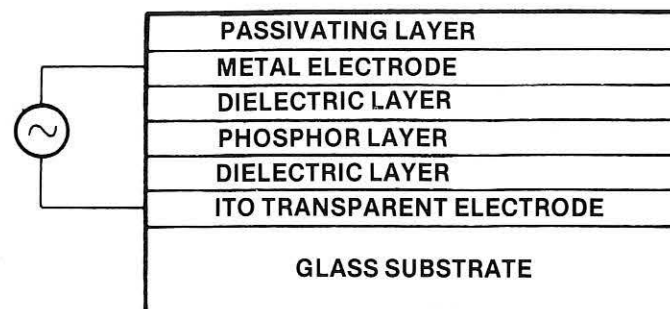

Figure 8. Typical structure of ac EL thin film device.
**3.1 Fabrication Technique:** The typical structure of the device is shown in Figure 8. The process by which successive layers are deposited can be any of the available methods for thin film deposition, e.g. sputtering, electron beam evaporation, thermal evaporation, or a combination. The devices are moisture sensitive, and passivation and encapsulation are therefore crucial. Dopant materials widely used in ZnS include particularly Mn (yellow-orange) and TbF3 (green).
**3.3. Contrast Enhancement:** The device shown in Figure 8 is highly reflective. Under ambient illumination, the brightness of the device has to be increased by increasing its voltage, in many cases, close to breakdown. Soxman and Ketchpel19 found that contrast can be enhanced by a dark layer behind the emitting layer. In order that such a layer be effective to enhance the contrast, the following requirements must be fulfilled: